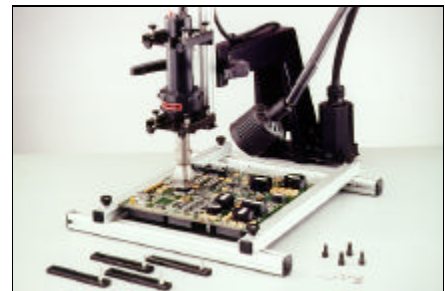

Figure 2: Rework stand holds hot air rework tool steady and positioning table keeps PC board level.
1. Place the pre-heated PC board on the positioning table. A heated positioning table is available to pre-heat the PC board, or can be used to maintain the pre-heated temperature when many components need to be removed from one PC board. (See Fig. 2).